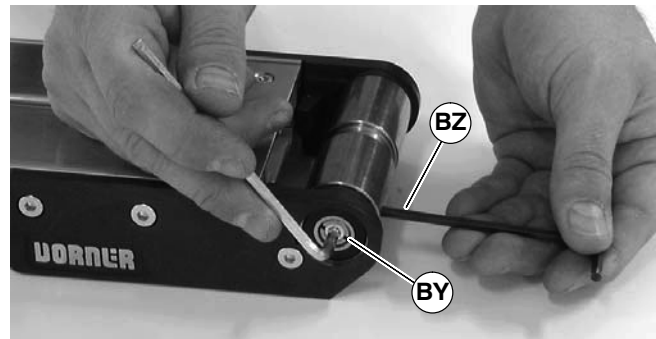

Figure 57
5. On both sides of pulley, use a 4mm hex-key wrench to tighten pulley taper screw (BY of Figure 57) to 75 in-lb (8.5 Nm). Steady pulley with second hex-key wrench (BZ) inserted into pulley hole.